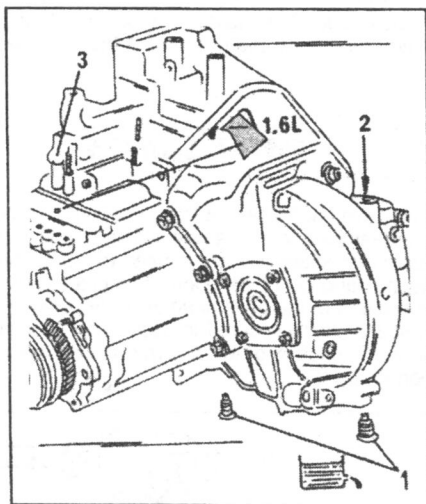

Fig. 3.3. — The location of drain plugs (1), oil dipstick (2) and oil filler plug (3).
"Min" and a "Max" mark, showing you the level of oil in the gearbox. Fig. 3.3 shows a view of the transmission with the position of the drain plugs (1), the oil dipstick (2) and the oil filler opening (3). To top-up the transmission, unscrew the filler plug and, using a funnel, fill in the missing quantity of the recommended oil (75W 80W). Tighten the plug top 1.3 kgm (10 ft.lb.).